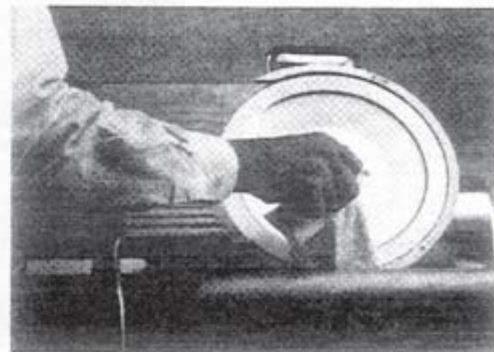

Figure 16-1
6. The knife ring guard must now be cleaned. To clean the knife ring guard, soak a clean cloth in the mild detergent and warm water solution. **Carefully** insert the cloth between the knife and the knife ring guard as indicated by Figure 16-1. While holding the cloth between the knife and the knife ring guard, work it along the entire back side of the knife, between the knife and knife ring guard. Repeat this procedure as necessary. A nylon brush could also be used if preferred.